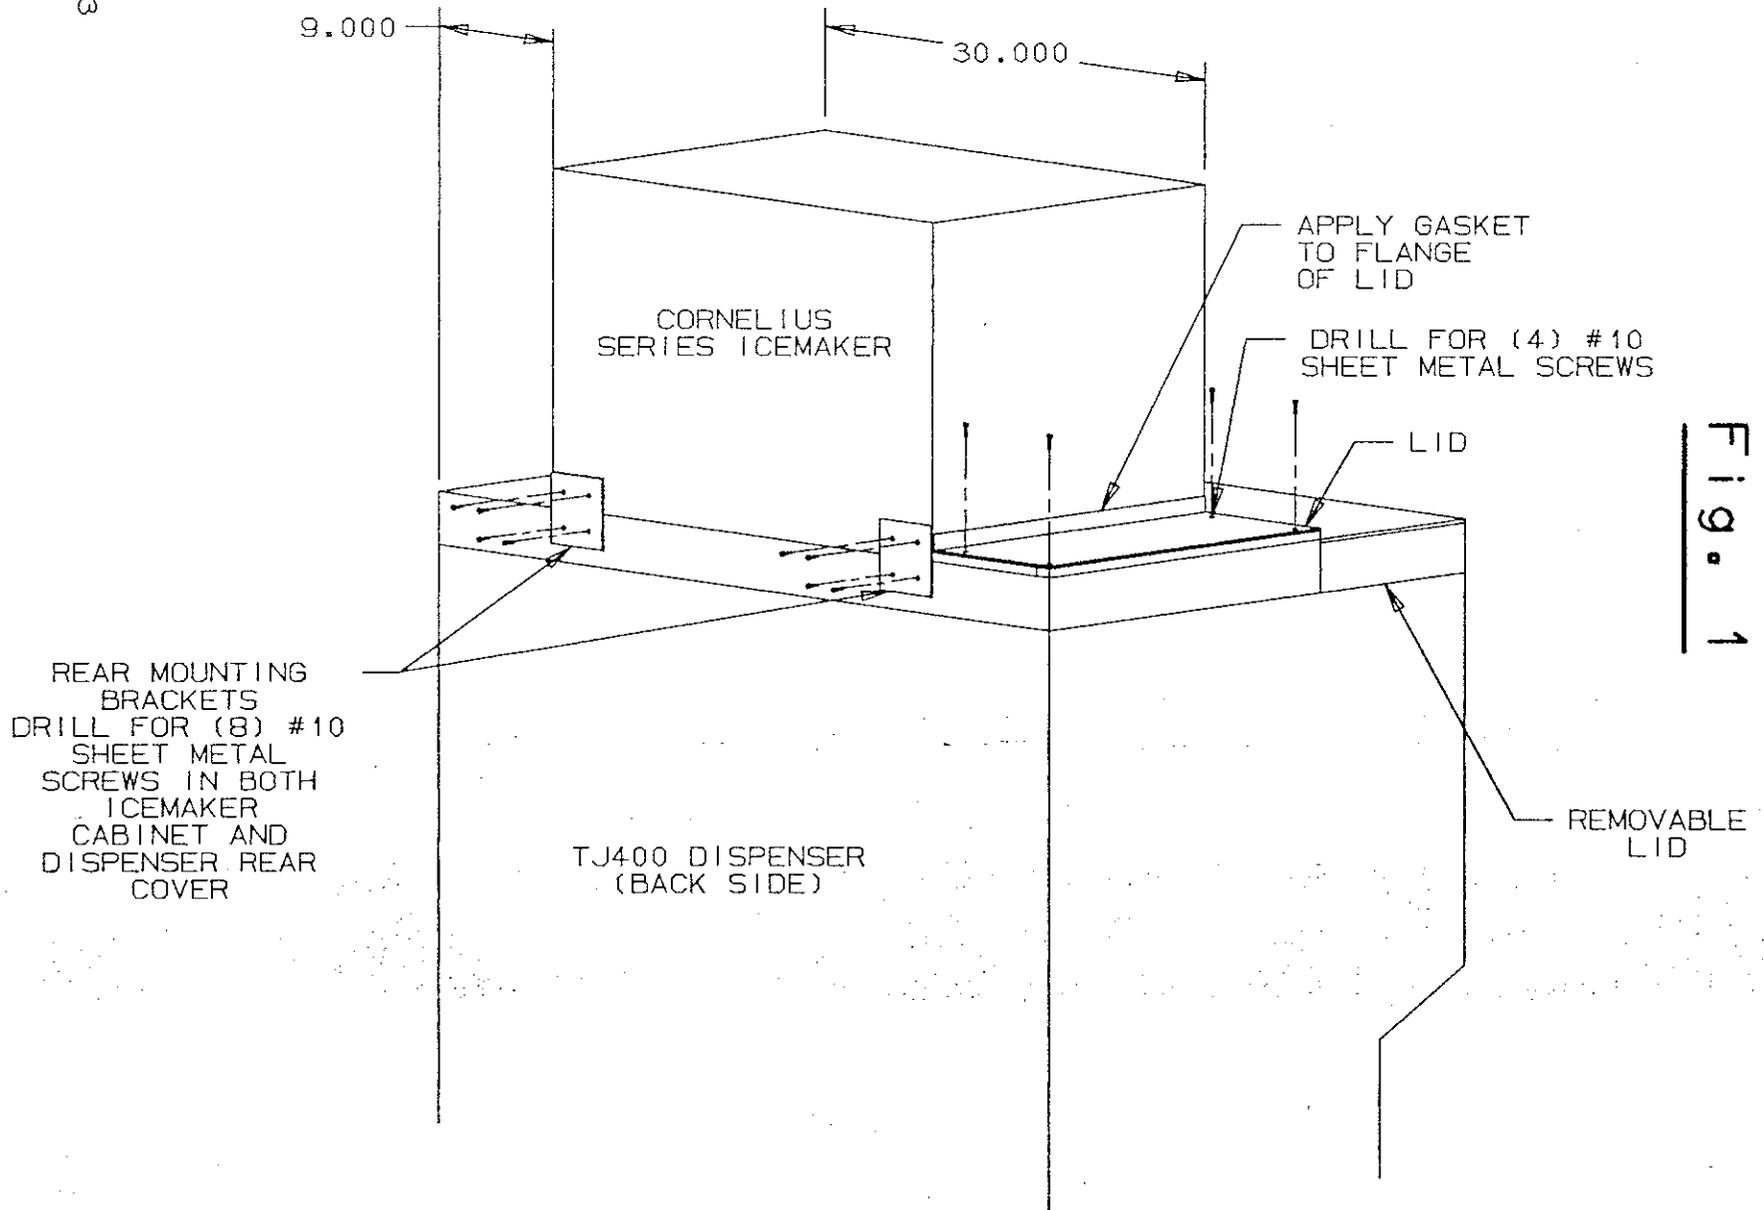
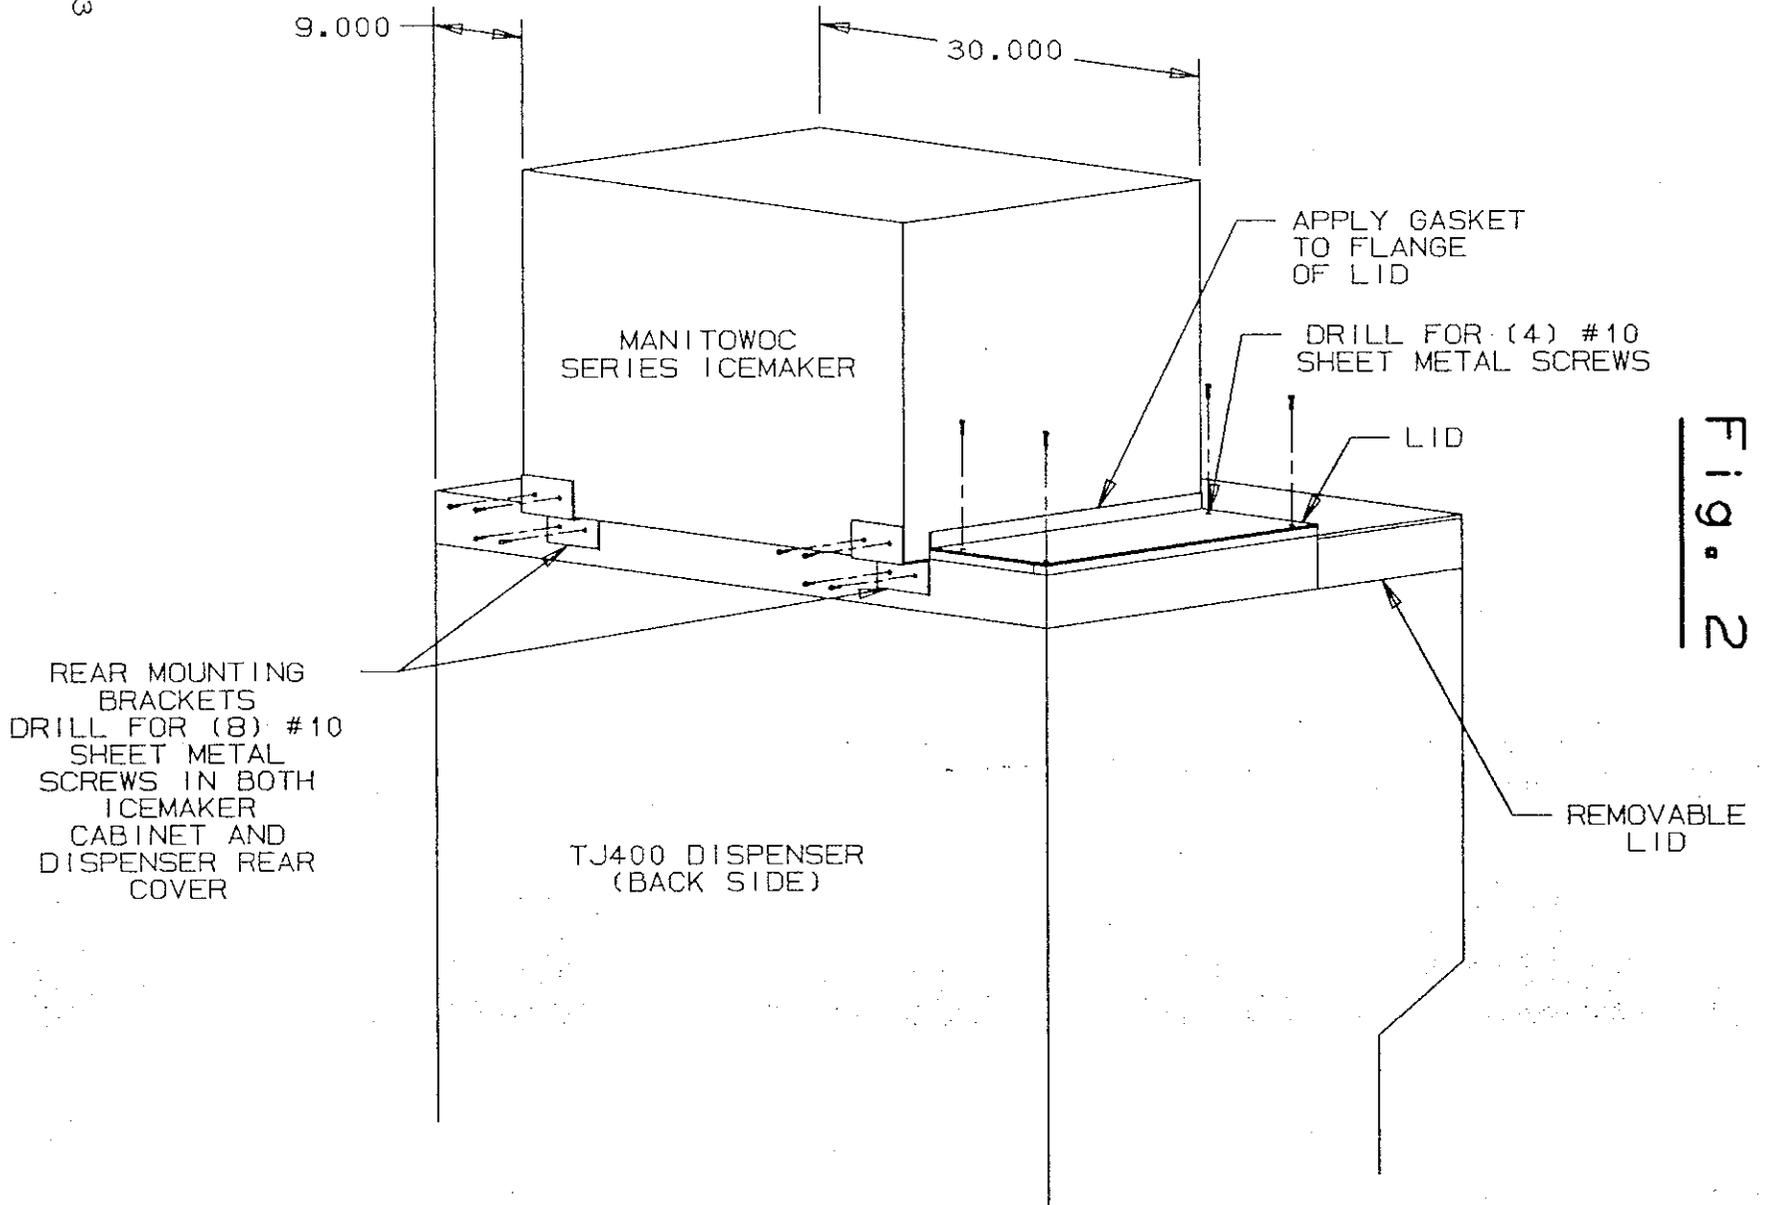

Fig. 1
Fig. 2
- 2) Secure ice maker to dispenser with mounting brackets provided. Drilling must not interfere with ice maker components. (Refer to Figure 1 or Figure 2 as required).
- 3) Install adhesive backed gasket strip to the two (2) lid flanges.